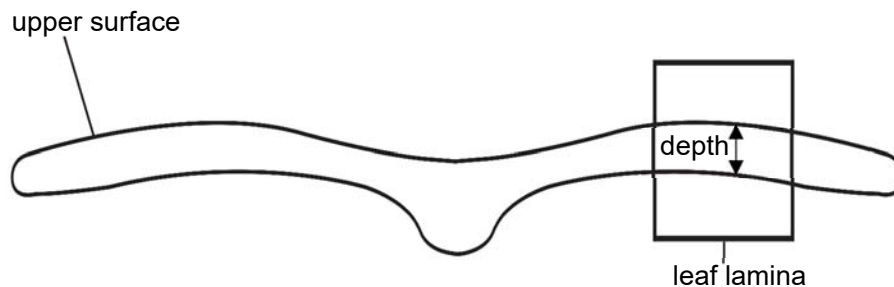

Fig. 3.1
- (a) Select the part of the leaf (lamina) on **J1**, shown in Fig. 3.1.